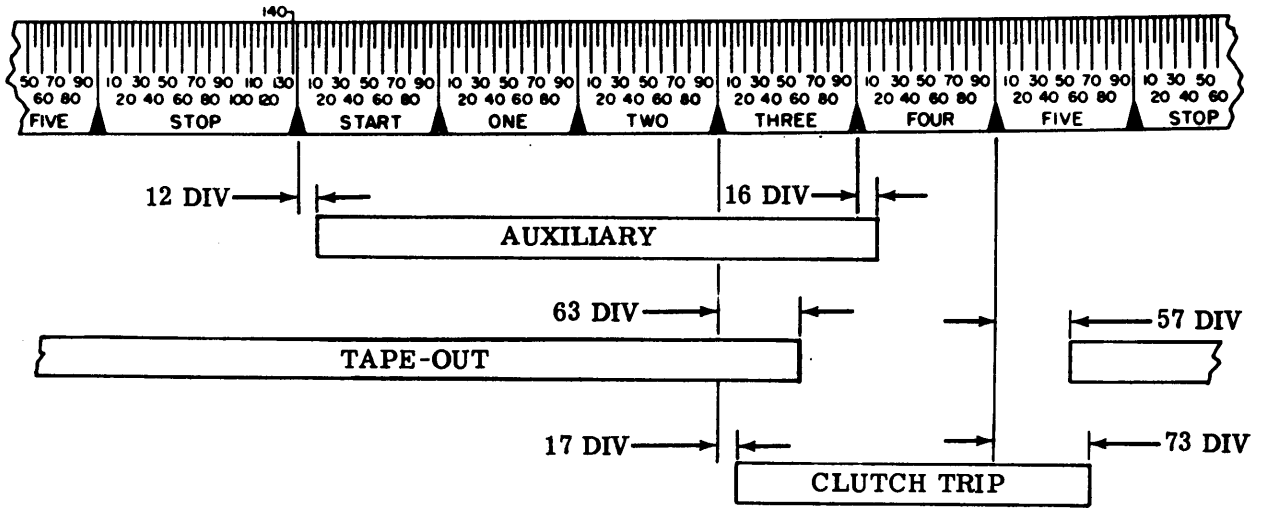

Figure 16 - Auxiliary, Tape-Out, and Distributor Clutch Trip Contacts --- 2-Cycle Cam
3.18 Transmitter Contacts — Auxiliary, Tape-Out, and Distributor Clutch Trip (Figure 16):